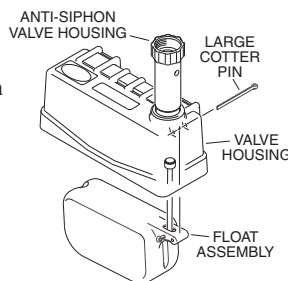

Figure 3
4. Position float assembly inside valve housing and slide the large 2-1/4" cotter pin through the housing and the float assembly (see Figure 3). Spread the ends of the large cotter pin open slightly with pliers. When properly installed, the float assembly should pivot freely on the cotter pin inside the valve housing.